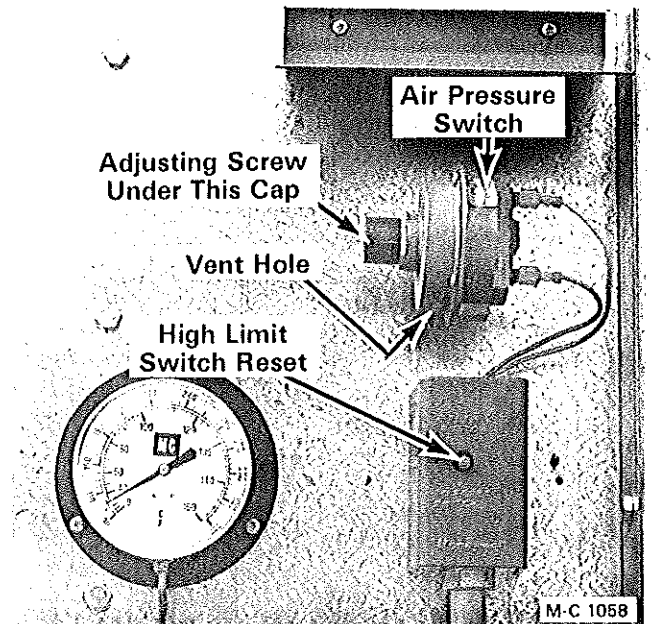

Figure 15
6. The POWER and HIGH LIMIT lights on the control panel will be ON. If the HIGH LIMIT light is not on, push the reset button on the high limit switch, see Figure 15.
1. The air pressure switch, Figure 15, senses the static air pressure in the heat chamber when the dryer is full of grain and the fan is running. If the static air pressure drops because of fan failure, the air pressure switch opens stopping current flow to the ignition switch. The gas solenoid valves will close and the burner will shut down.
1. Remove the plastic cap on the air pressure switch. The slotted screw is the adjusting screw, see Figure 15.
9. If the High Limit Switch trips out, close the gas main hand valve and flip the ignition switch OFF. Push the reset button on the High Limit Switch to reset it, see Figure 15. Restart the fan and repeat steps 3 and 4, but open the gas main hand valve slower to prevent the temperature from rising too fast.